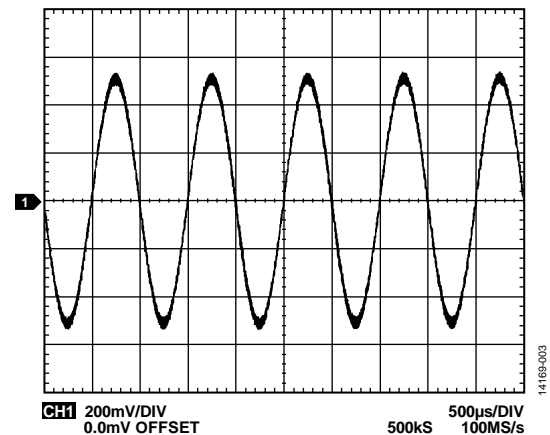

Figure 3. Output of the AD8253-EVALZ when  $G = 10$
4. Set Switch 3 on the SW3 DIP switch to set the gain to Gain ( $G$ ) = 10. The result must resemble Figure 3.